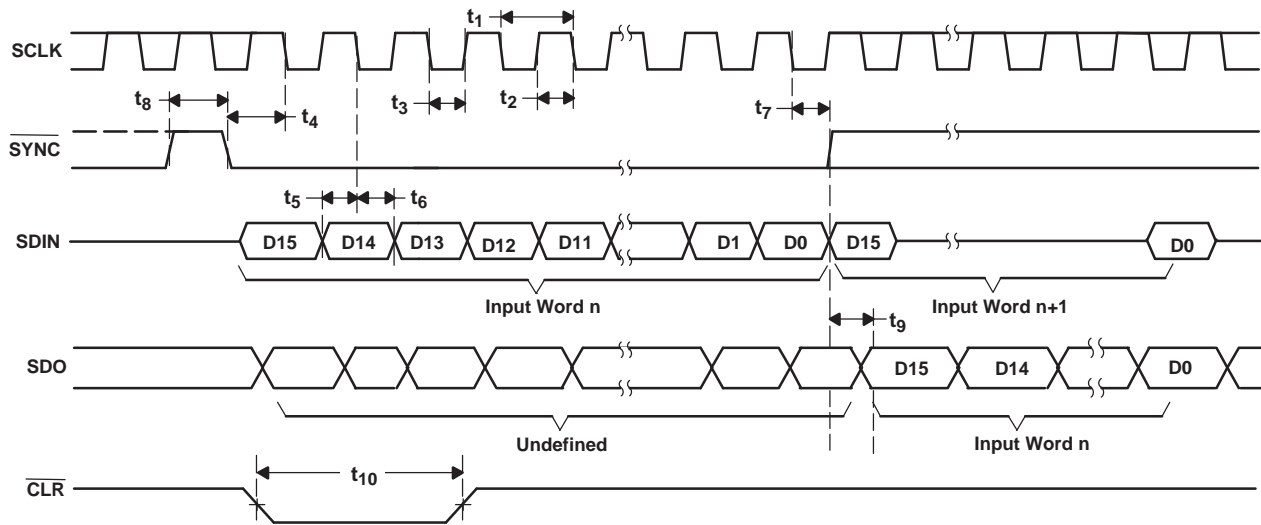

Figure 1. Serial Write Operation Timing Diagram
(1) All input signals are specified with $t_R = t_F = 1\text{ns}$ (10% to 90% of V_{DD}) and timed from a voltage level of $(V_{IL} + V_{IH})/2$.
(2) See Figure 1, Serial Write Operation timing diagram.
(3) Maximum SCLK frequency is 50MHz at $V_{DD} = 2.7\text{V}$ to 5.5V .
(4) SCLK falling edge to $\overline{\text{SYNC}}$ rising edge time should not exceed $(t_1 - 10\text{ns})$ in order to latch the correct data.